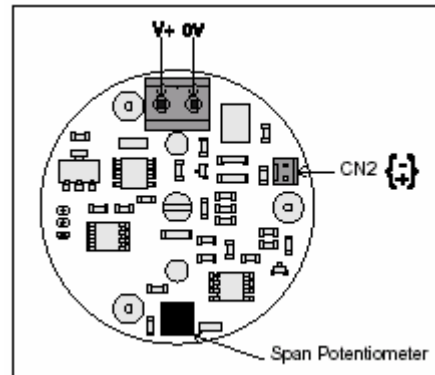

Fig. 8-3 Oxygen sensor print board
1. Check the sample flow of the sensor (300 cc/min.) coming out of the tube (F) that is connected to the sensor cap (E). The flow can be adjusted with the needle valve (FCV3).
2. Remove the sensor cap (E) and expose the sensor to ambient air.
3. The signal may be monitored using a multimeter inserted in CN2 (fig. 8-3) (across a 10 Ohm precision resistor), or by remote receiver.
5. The value should read 174mV. Adjust the oxygen level if the value in the display differs. Turn the small adjustment screw (B) to set the level to 174mV (which corresponds to 20.9% O₂ level).
6. Reconnect the tube (F) and the sensor cap (E) with the sensor (C).